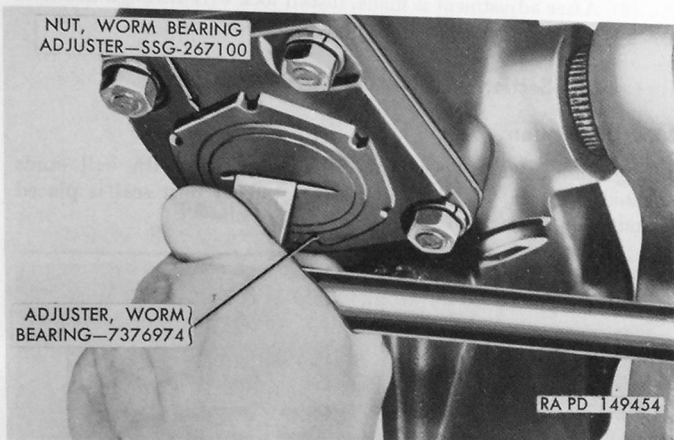
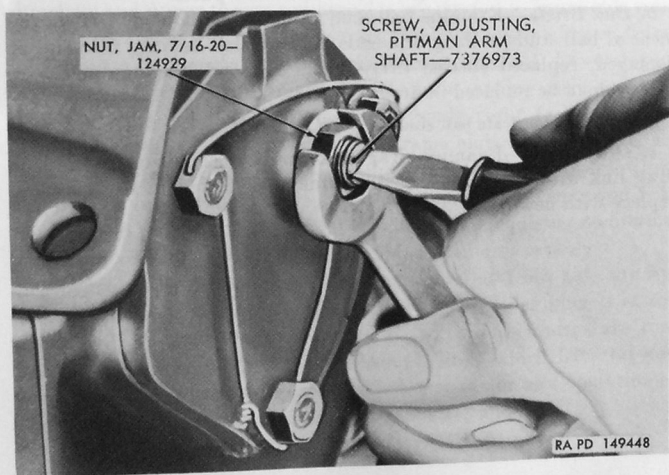

Figure 202. Adjusting worm bearings.
Figure 203. Adjusting Pitman arm shaft lash.
- (4) Loosen worm bearing adjuster nut (fig. 202); then turn worm bearing adjuster in or out to obtain correct pull. Tighten adjuster nut and recheck pull.
- (5) After shaft bearings are adjusted, Pitman arm shaft lash adjustment must be made (*d* below).
- d. Pitman Arm Shaft Lash Adjustment* (fig. 203).
- (1) Check tightness of side cover bolts.
- (2) Center steering mechanism as previously marked in *b* above.
- (3) Turn Pitman arm shaft adjusting screw in to remove all lash between gear teeth. The amount of backlash can be determined by pushing backward and forward on Pitman arm. When all backlash has been removed, tighten adjusting screw jam nut.
- (6) After adjustment is made, install lock wire through heads of side cover bolts as shown in figure 203.